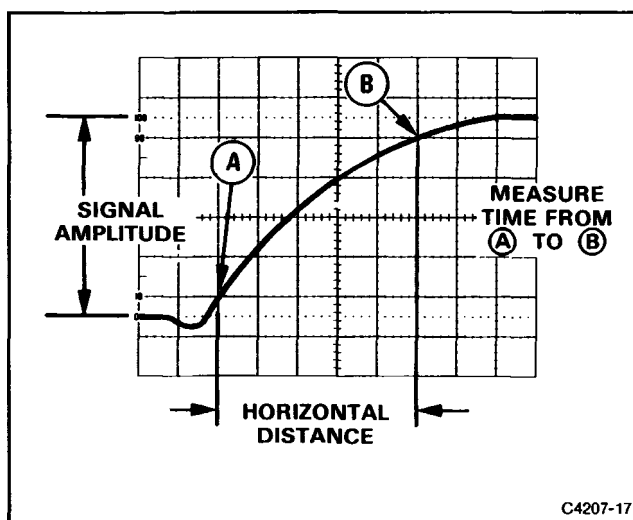

Figure 4-6. Rise time.
Rise-time measurements use the same methods as time duration, except that the measurements are made between the 10% and 90% points of the low to high transition of the selected waveform (see Figure 4-6). Fall time is measured between the 90% and 10% points of the high to low transition of the waveform.
6. Measure the horizontal distance between the 10% and 90% points (between Points A and B of Figure 4-6) and calculate the time duration using the following formula: